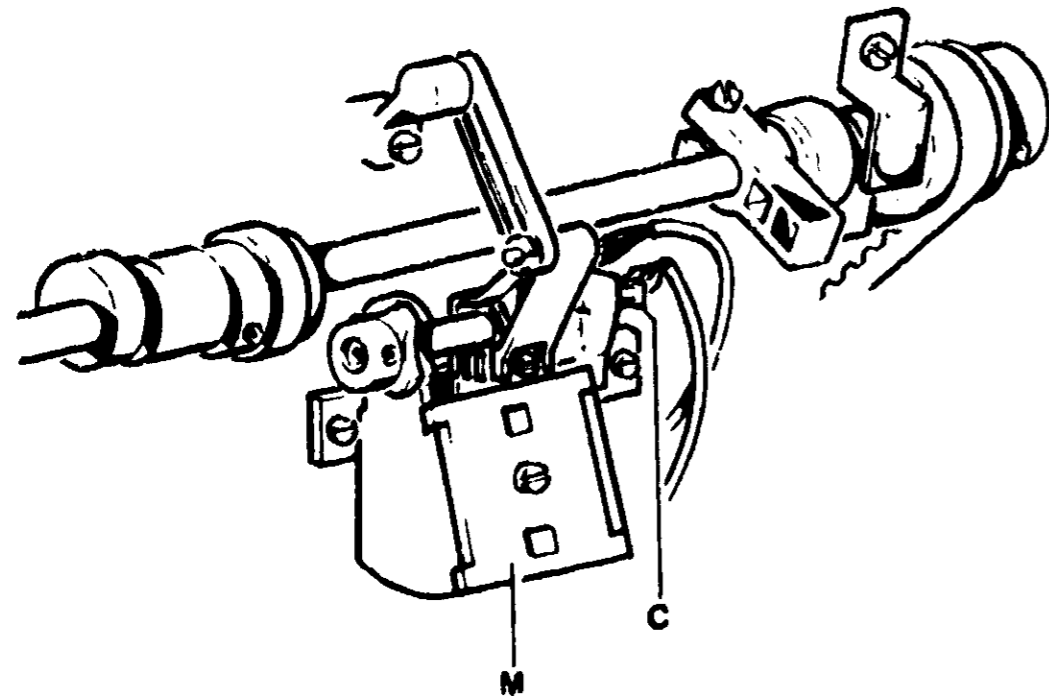

FIGURE 84
- C (Figure 84) from feed actuator pot (M)